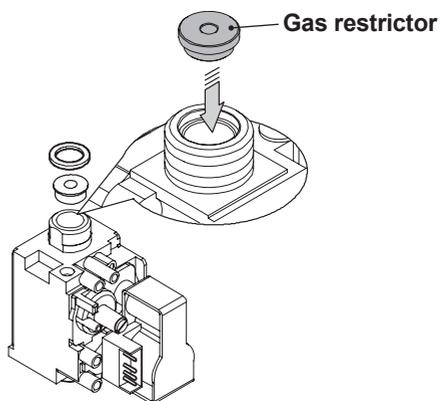

Fig. 8.2
- Carry out gas conversion by correctly replacing the gas restrictor (Fig. 8.2), referring to the "Technical Data" section page 24 (Advance Plus 16S), page 26 (Advance Plus 25S) and page 28 (Advance Plus 30S).